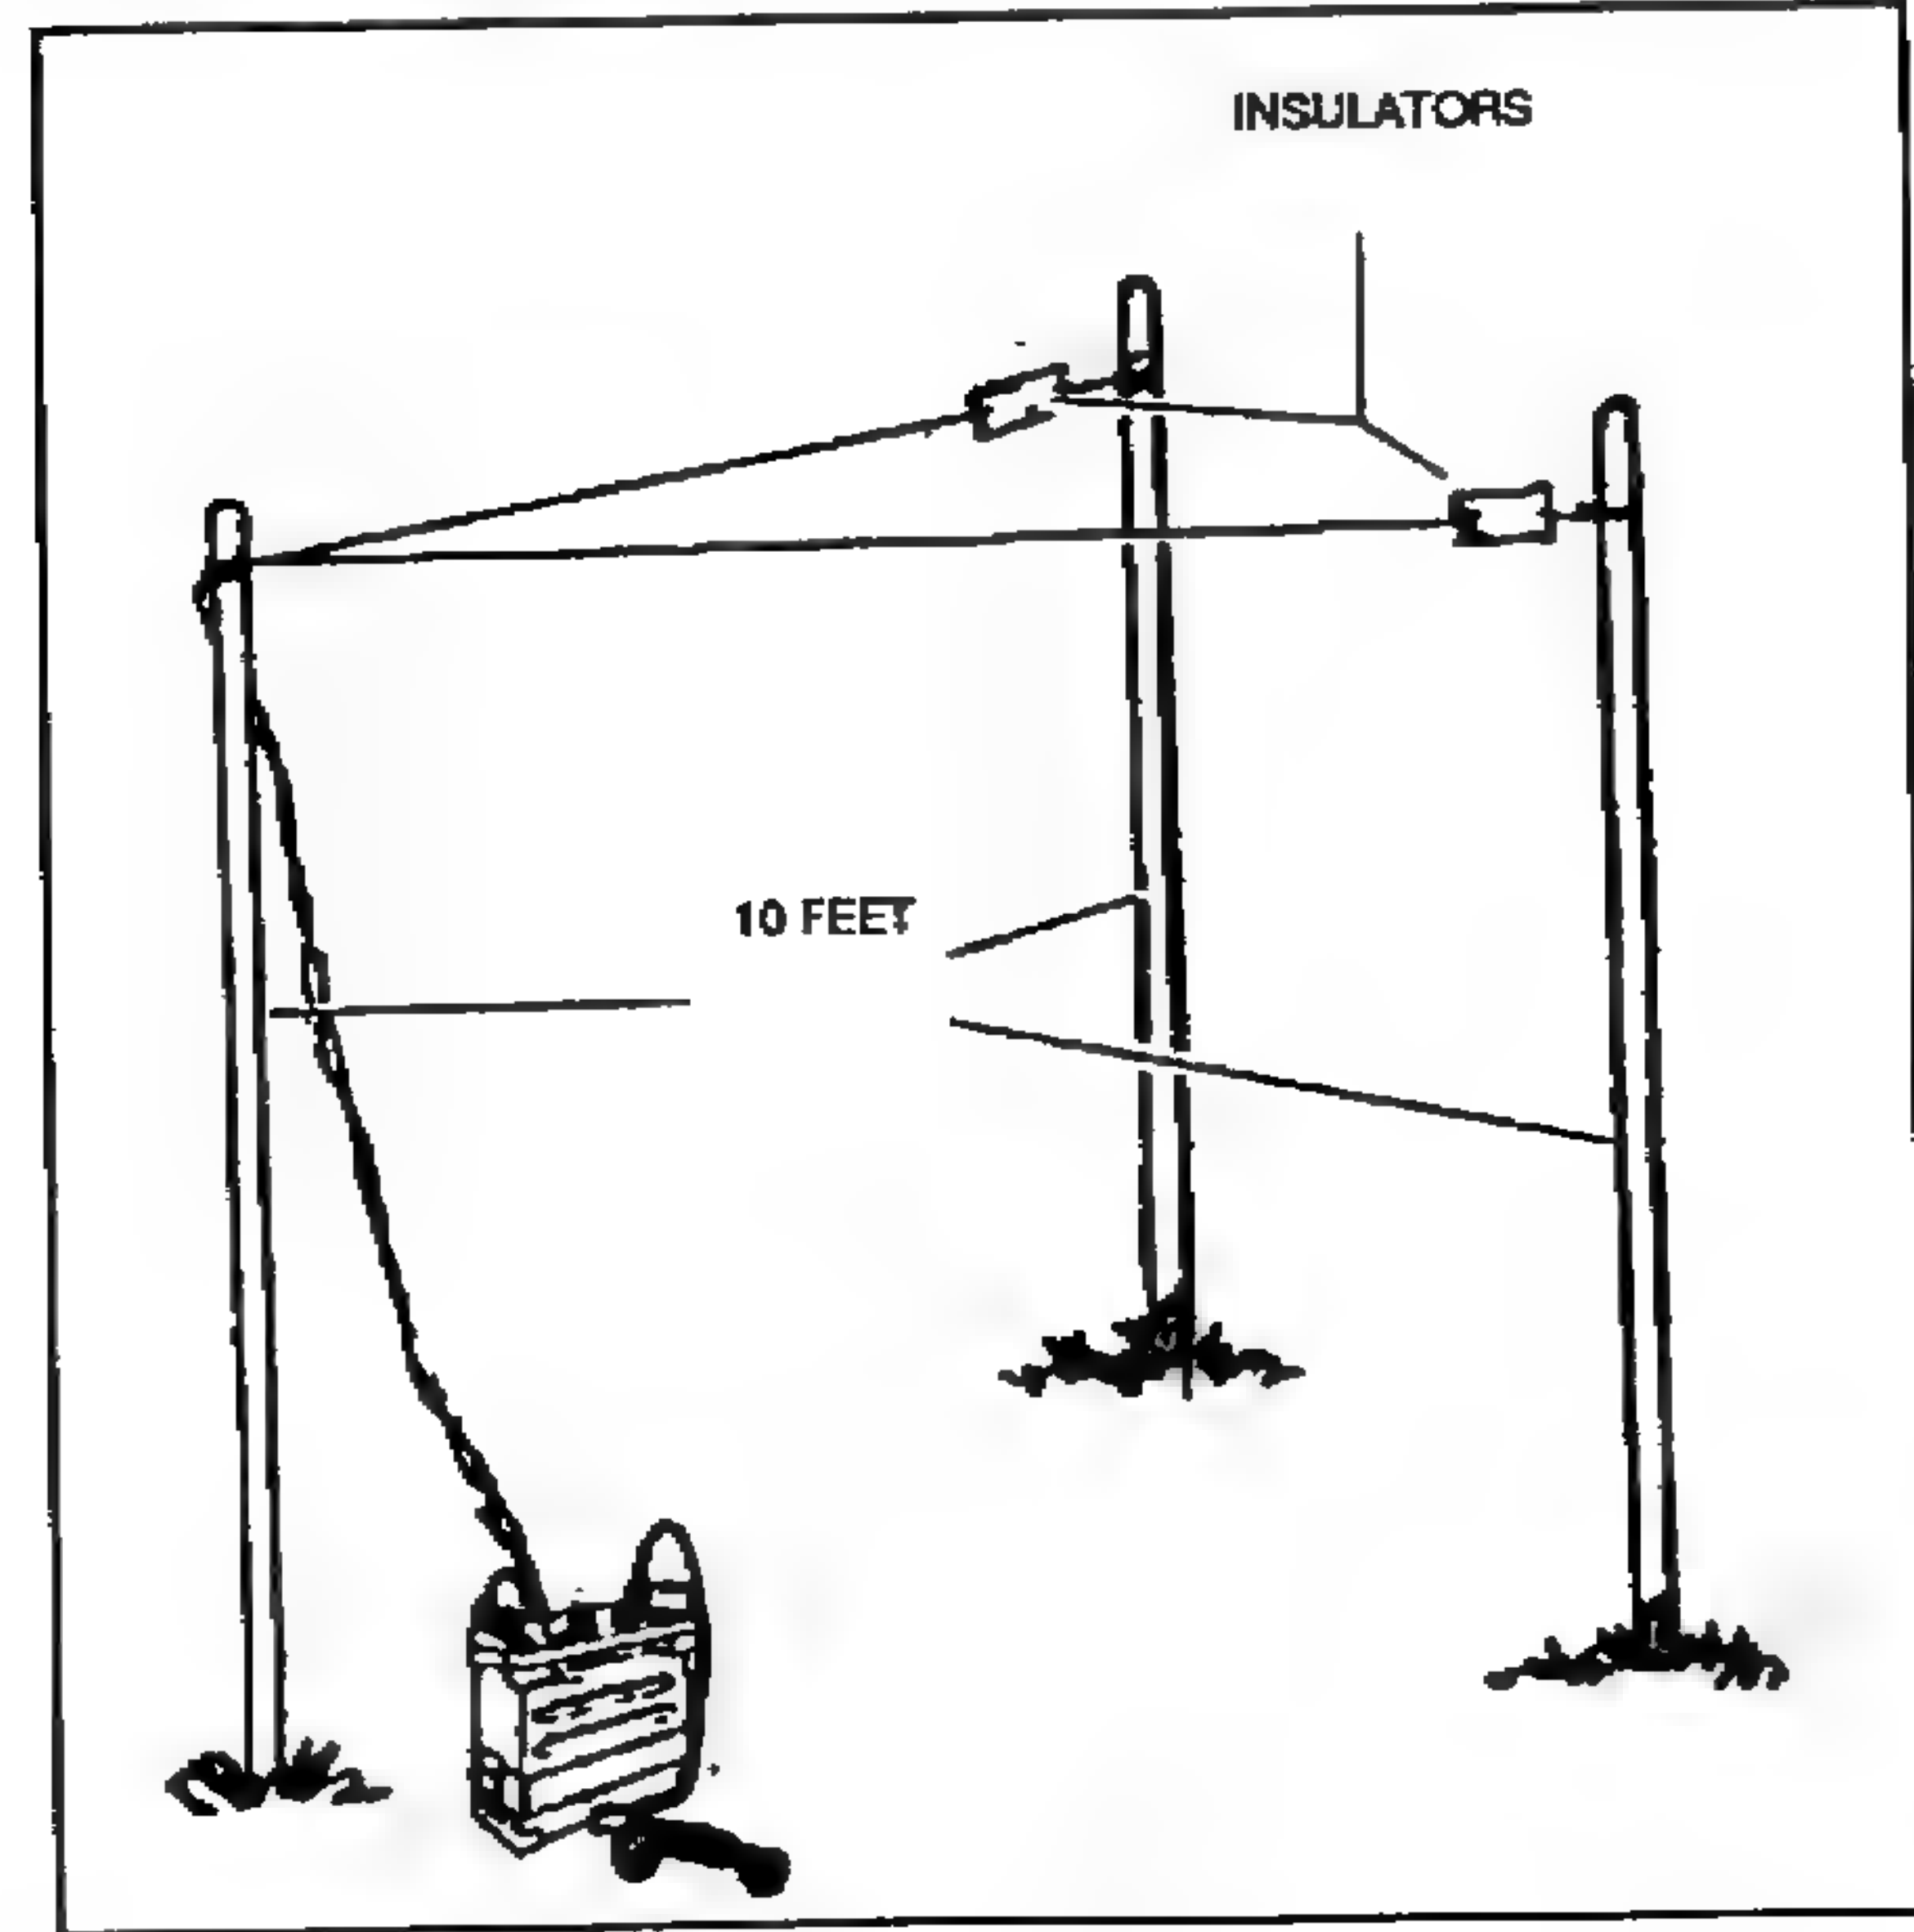
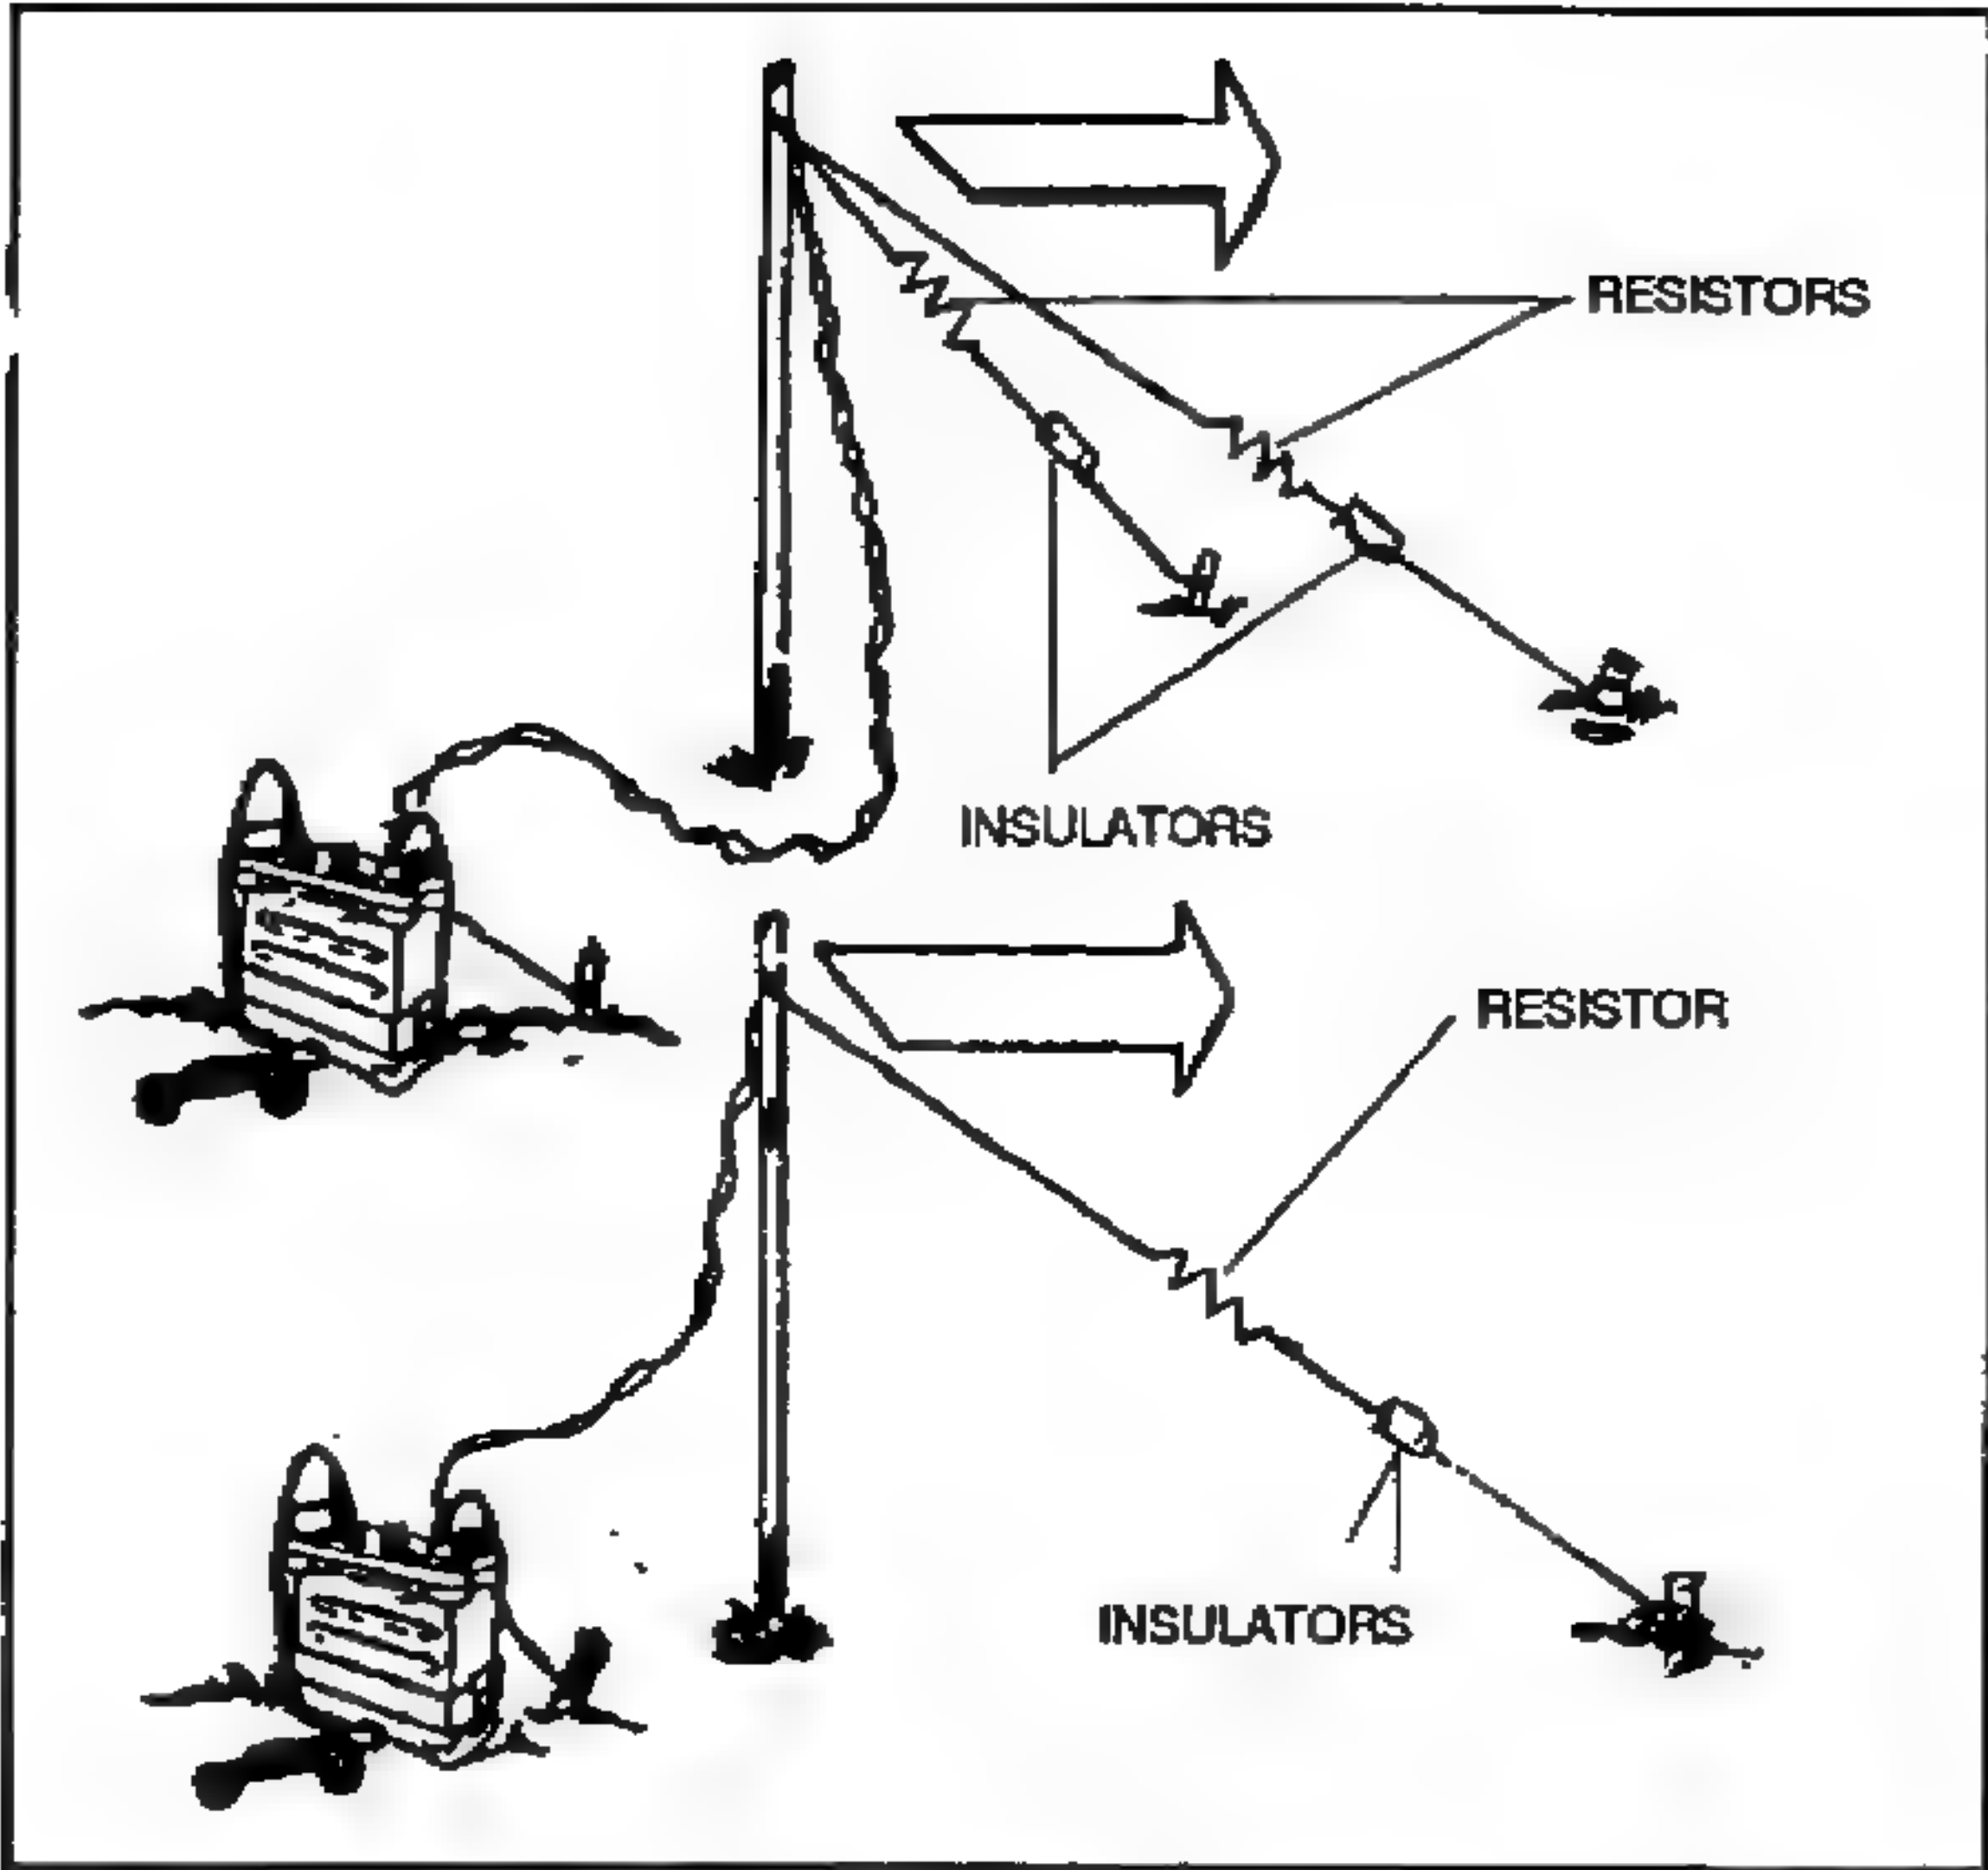

Figure 7-11. V antenna.
Figure 7-12. Sloping-V antenna.
a. The V antenna (Figure 7-11) is another field-expedient directional antenna. It consists of two wires forming a V with the open area of the V pointing toward the desired direction of transmission or reception. To make construction easier, the legs should slope downward from the apex of the V; this is called a *sloping-V antenna* (Figure 7-12). The angle between the legs varies with the length of the legs to achieve maximum performance. (To determine the angle and the length of the legs, use the table in Table 7-1.)